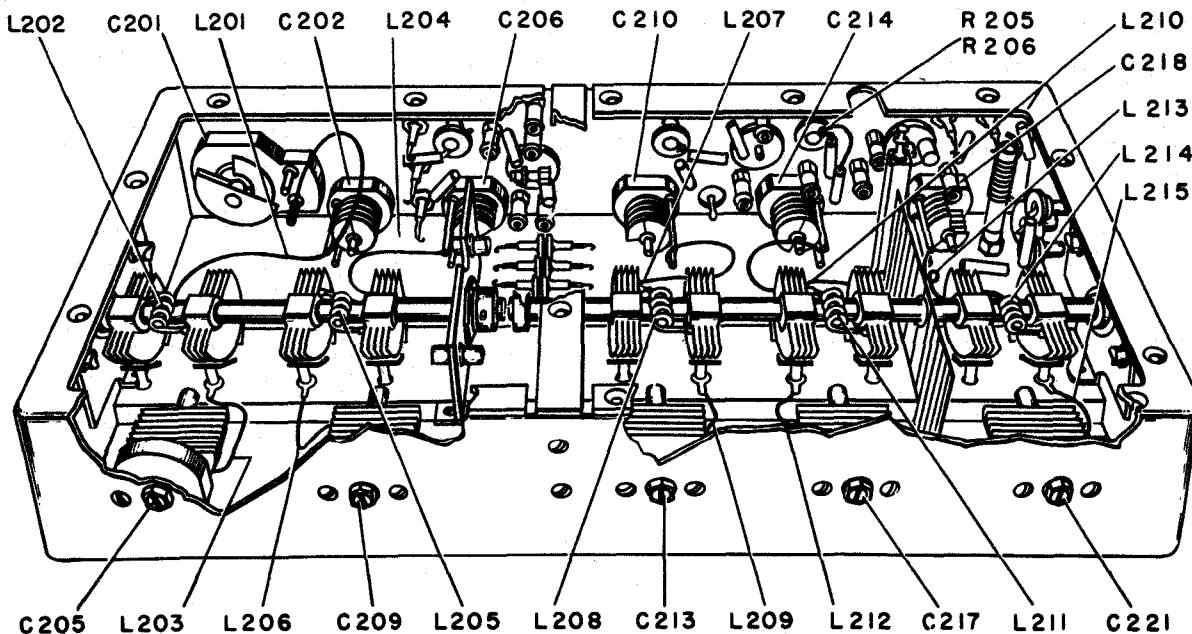

Figure 7-11. Adjustable Components of Radio-Frequency Section
Step 27. Using an insulated alignment tool, adjust the loop of L201 for minimum output by pushing it slightly toward or away from the panel, as necessary. This adjustment may be made through the hole to the right of C201. Loop L201 is shown on Figure 7-11.
The location of these capacitors and the various inductive loops is shown on Figure 7-11.
Step 13. With the tuning wand, check the alignment of loops L201, L204, L207, and L210, in the order given, for maximum amplitude and the approximate wave pattern of Figure 7-12A. The location of these wire inductive loops is shown in Figure 7-11.